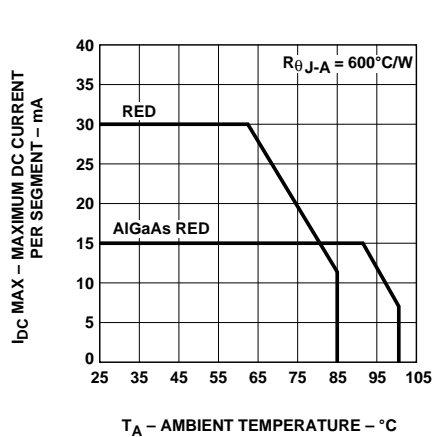

Figure 3. Maximum Allowable DC Current vs. Ambient Temperature.
- Derate maximum DC current for Red above  $T_A = 62^\circ\text{C}$  at 0.79 mA/°C, and AlGaAs Red above  $T_A = 91^\circ\text{C}$  at 0.8 mA/°C. See Figure 3.